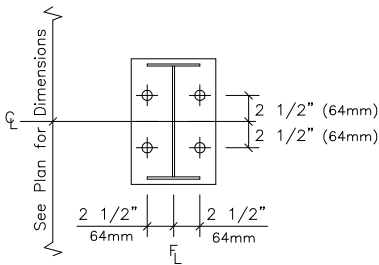

Figure 3: IC detail at interior frame
With these endframe conditions in mind, let's talk about interior column orientation. Standard Interior column (IC) orientation at interior frames with three-plate columns is for the IC web to run in the same direction as the main frame (web perpendicular to the sidewall (fig. 3). When ICs are used at an endframe for girt attachment, the column is “turned” or rotated 90 degrees so that the web is now perpendicular to the endwall (fig. 4).